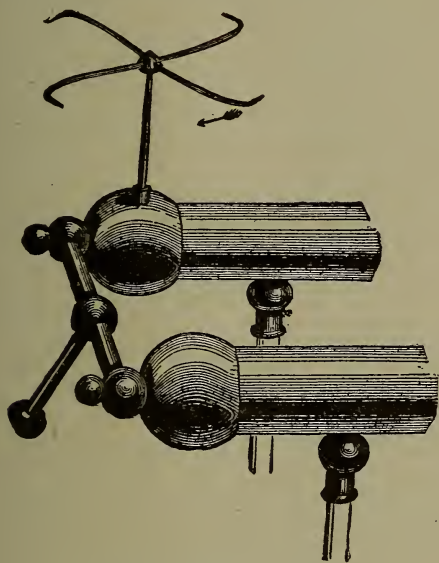

Fig. 25. Electrical Wheel.
*Answer.* Example 1. If a pivot be erected on the knob of an electric machine and a small wheel with wire spokes bent as shown in Fig. 25 is balanced on the pivot, the electrical winds coming from the pointed ends will drive the wheel around.